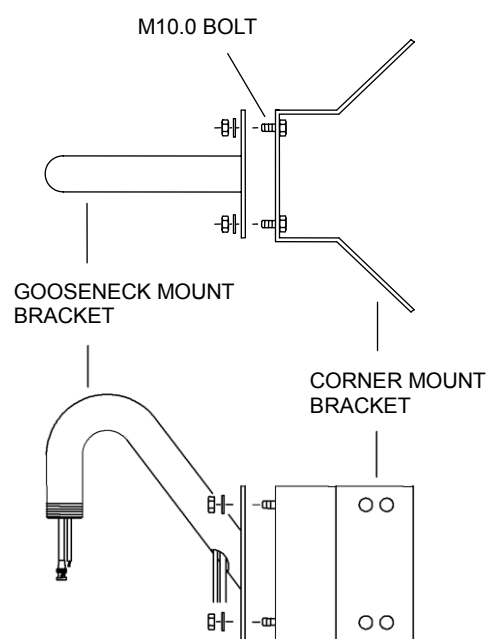

FIG. 22
4. Fix the wanted bracket on the corner mount bracket with 4 ea of M10 BOLT before you install the corner mount bracket. (FIG. 22)